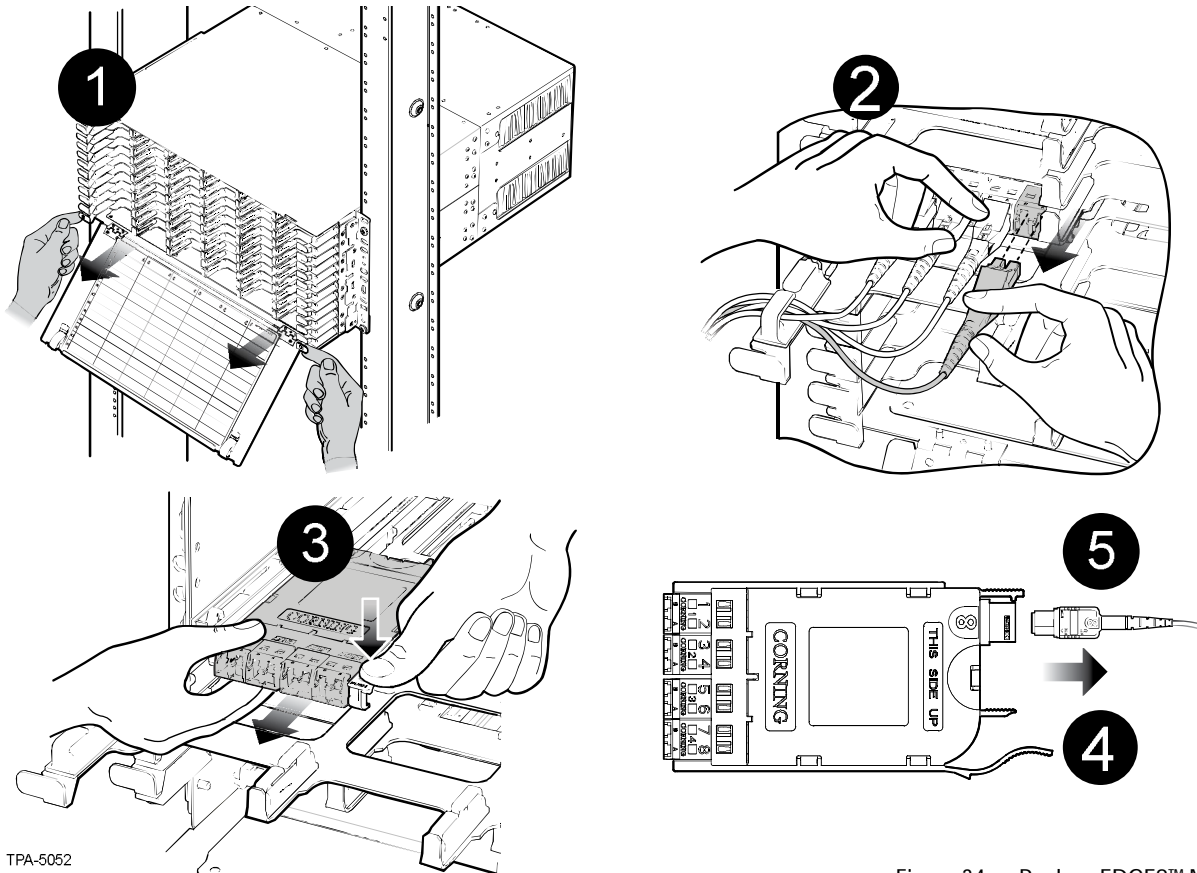

Figure 34 — Replace EDGE8™ Module
- Step 2: Press latch on LC connector and pull connector out (Figure 34). If jumper is equipped with MTP® connector, simply grasp connector body and pull connector out of the adapter. (NOTE: only LC connectors shown in Figure 34.)